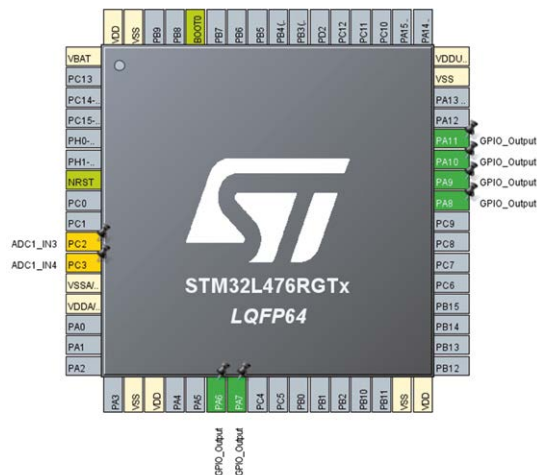

Figure 8.8: Configuring the GPIO.
- Configure PC3 as ADC1\_IN4 (Figure 8.8).